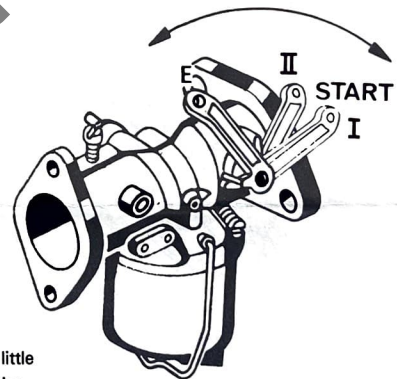

Fig. 2
Put choke lever in start position (Fig. 2)
Put choke lever in start position (Fig. 2). On this carburettor there is a thickener that can be depressed to overflow the float chamber, enabling an easy starting of the cold engine.
Put choke lever on working position (E Fig. 2)
5. After starting of a cold engine, the choke lever should be moved to the working position (E, Fig. 2) as soon as the engine is warm.